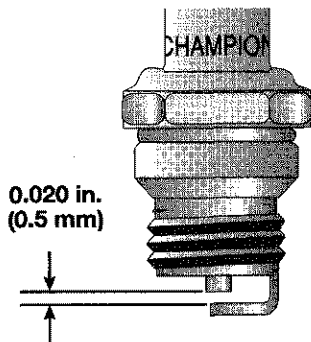

Fig. 41
3. Replace cracked, fouled or dirty spark plug. Set the air gap at **0.020 in. (0.5 mm)** using a feeler gauge (Fig. 41).